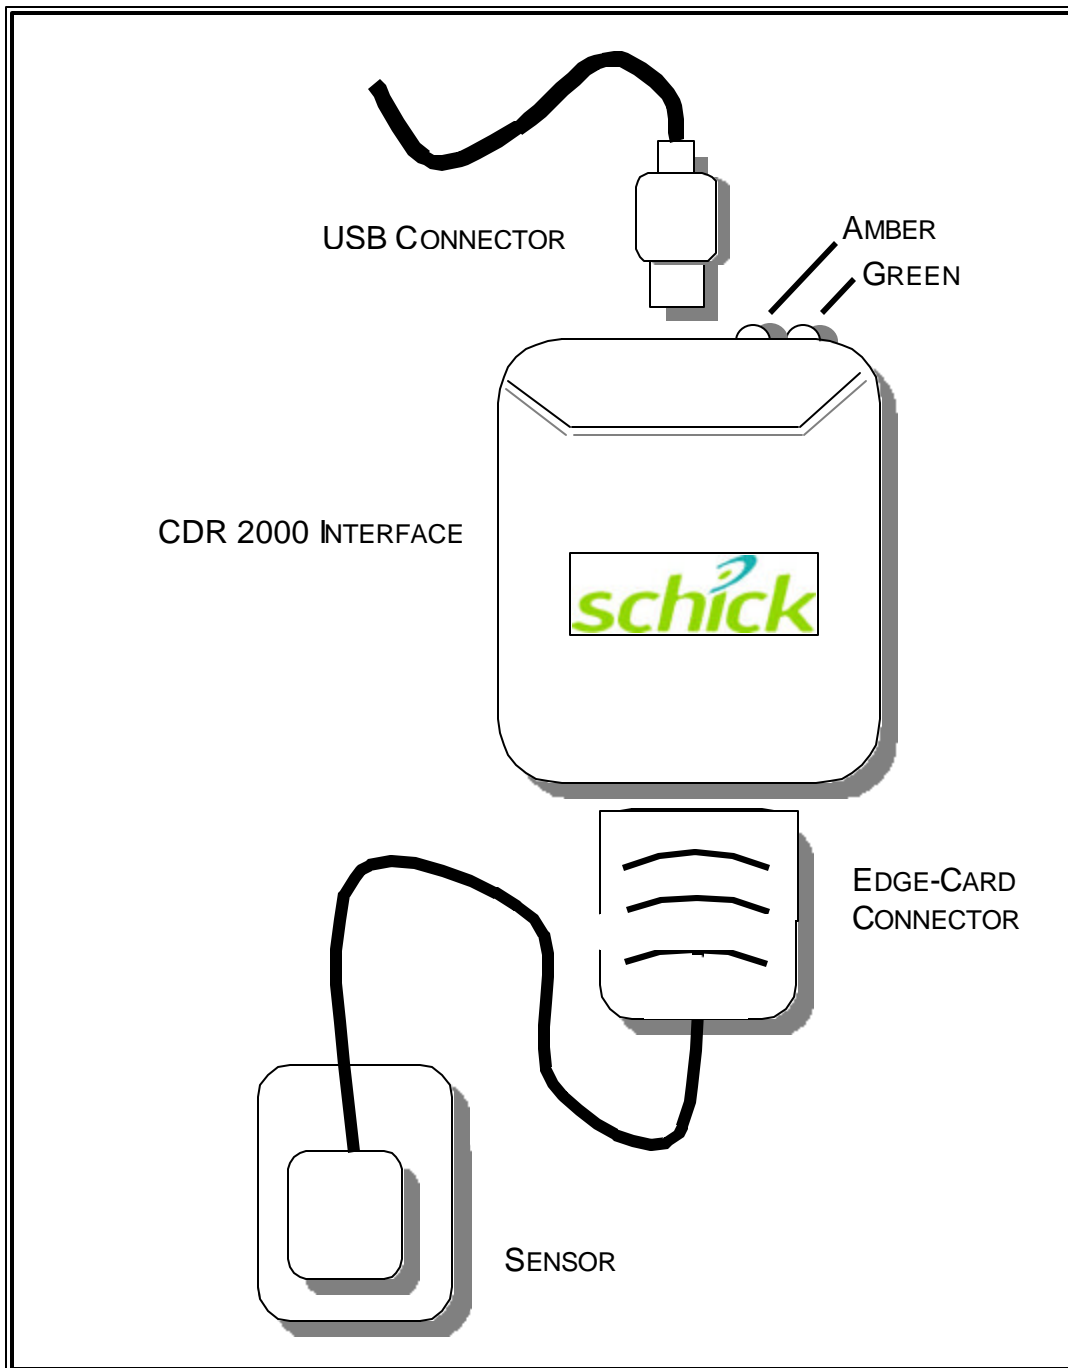

Figure 3. CDR 2000 Interface Configuration
*NOTE: See Figure 3, below, for reference.*